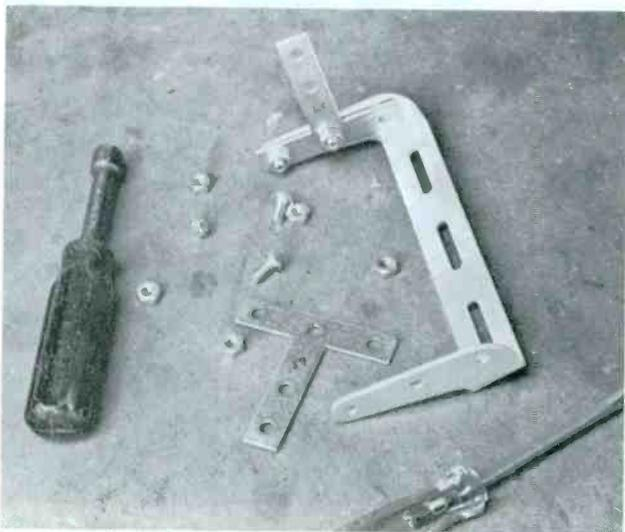

Fig. 2 "T" brackets (obtainable from hardware stores) added to the cradle permit mounting the CB radio upright, and with the speaker in the clear.
**My solution to these multiple problems is to bolt short T-shaped extensions to the mounting bracket** (Figure 2). That lets you put the transceiver right-side-up, even though the speaker still faces down. If the extra brackets raise the front of the radio high enough, an extension speaker won't be necessary; you can hear the internal speaker okay.